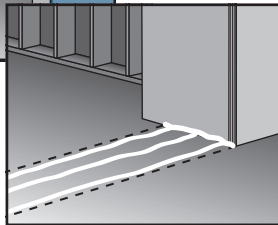

Fig. 2 Apply sealant across sill
2. Trim building wrap flush with rough opening on header and sides; and sill edge if door has a rise. Apply five **3/8"** beads of sealant across the sill as follows (**Fig. 2**):